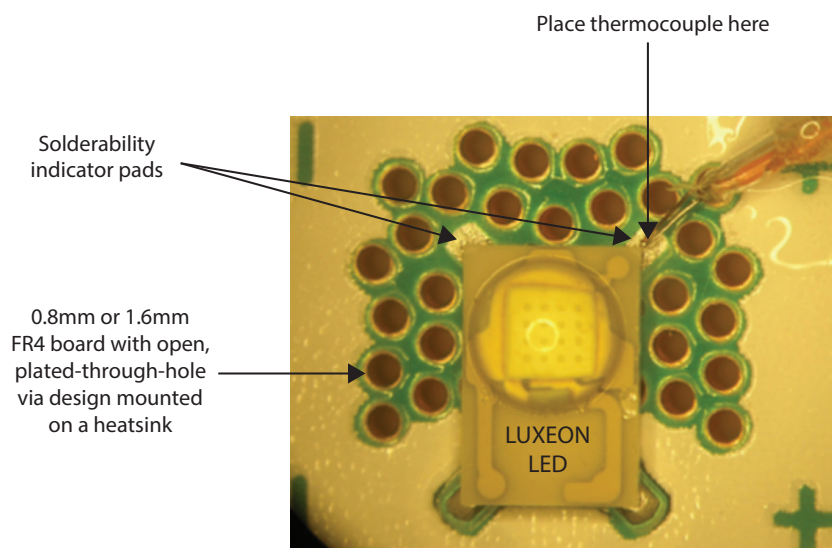

Figure 1. Solderability indicator pad and thermocouple placement.
The best way to define $R\theta_{J-Ref}$ for a LUXEON LED mounted on 0.8mm or 1.6mm FR4 board with open, plated-through-hole vias is to define the thermal resistance between the LED junction and the solderability indicator pad. Let us call this the thermal characterization parameter, Ψ_{J-S} . The solderability indicator pad provides the lowest thermal path to the thermal pad of a LUXEON LED. This thermal pad temperature is also known as the case temperature. We can define T_{Ref} as the solderability indicator pad temperature (T_c) and place a thermocouple on any one of the two pads as shown in Figure 1.
4. Place the thermocouple tip within the solderability indicator pad as shown in Figure 1.
2. Place the thermocouple tip within the solderability indicator pad as shown in Figure 1.